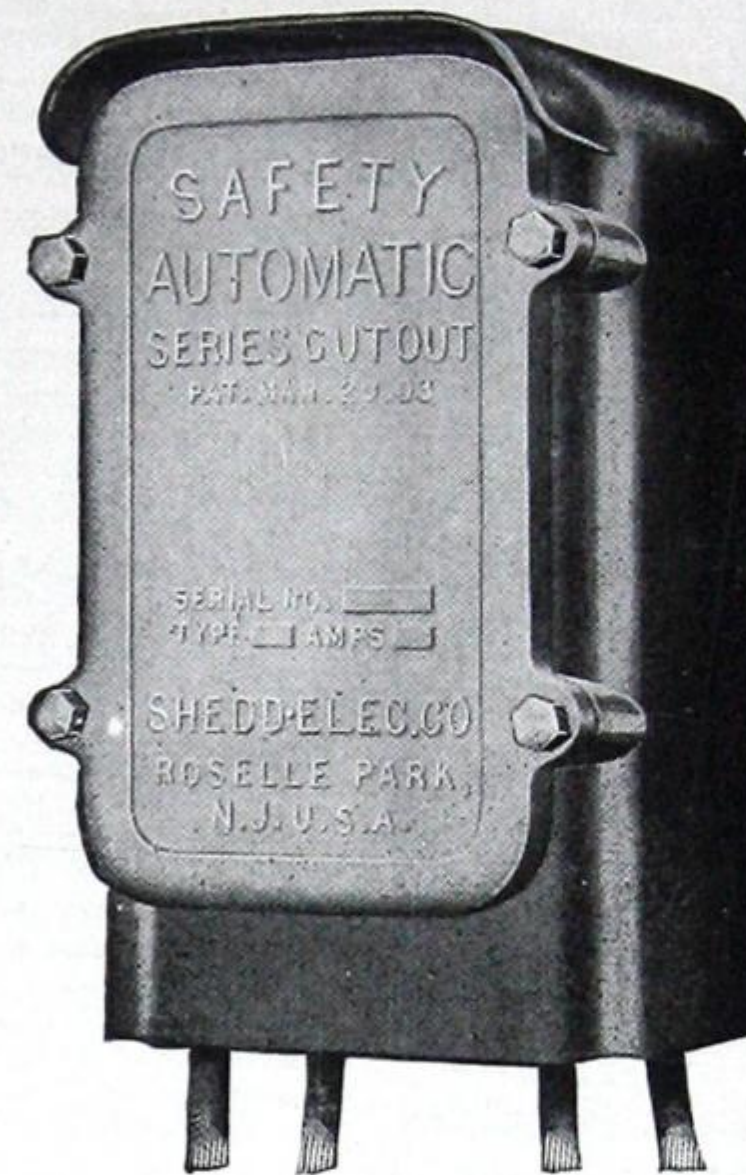
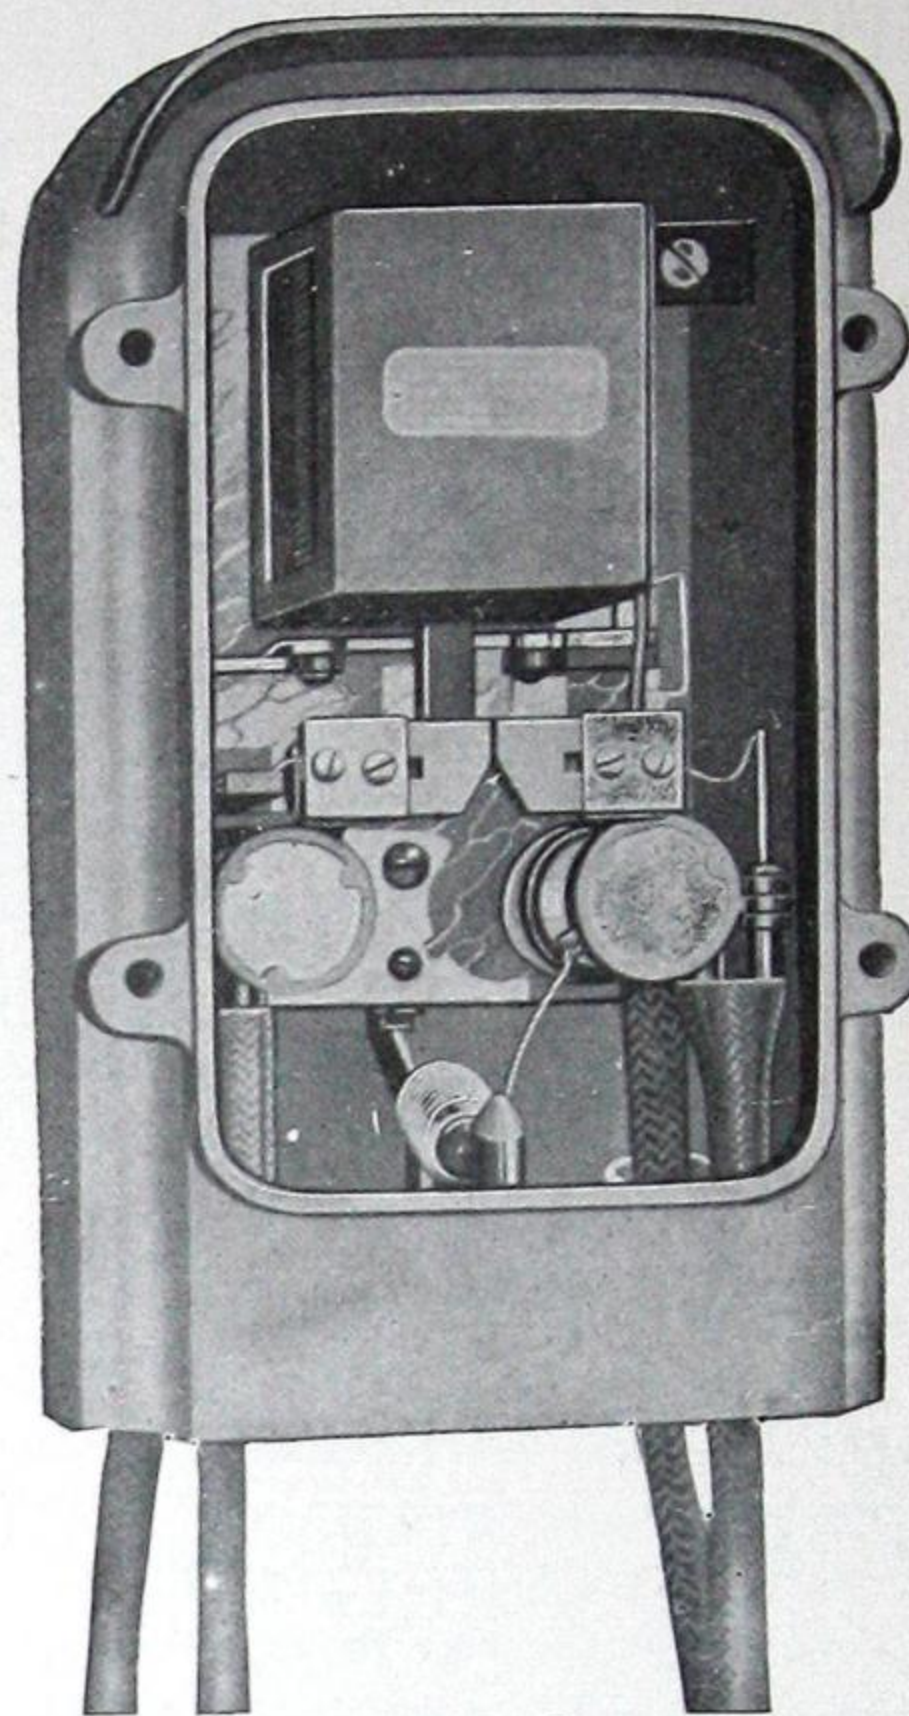

FIG. 1—SAFETY AUTOMATIC SERIES CUTOUT, COMPLETE
FIG. 2—CUTOUT WITH COVER REMOVED
**Construction**—As shown in Fig. 1, the apparatus is enclosed in a case so designed as to withstand all weather conditions, as well as to prevent the entrance of dust and insects. Hangers are furnished for mounting the case on a pole like a transformer. Fig. 2 shows a front view of the apparatus with cover removed. Ample air space is left between all parts of the device and the inside surface of the case, thus preventing the grounding of the enclosed apparatus if from any cause the case itself should become grounded.